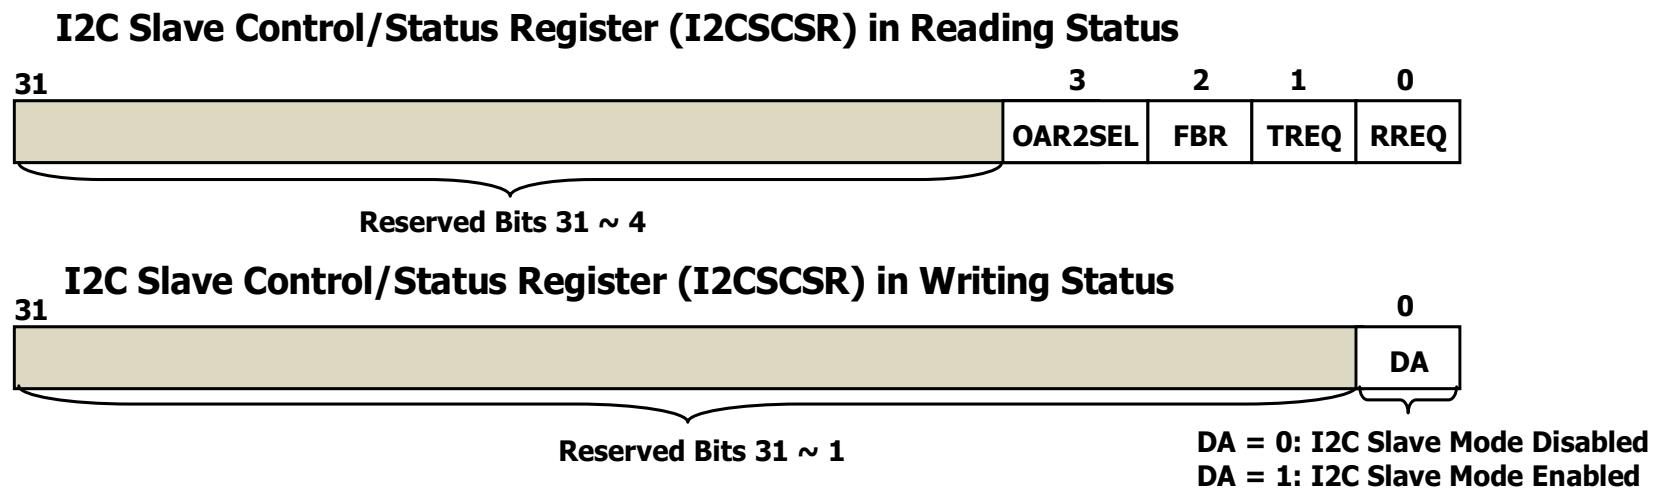

Figure 8.55 Bit field configurations of the I2CSCS register.
- Figures 8.55 shows the bit field configurations of this register in the **reading** and **writing** status. Table 8.26 (next slide) shows the bit field values and functions of this register in the reading status.